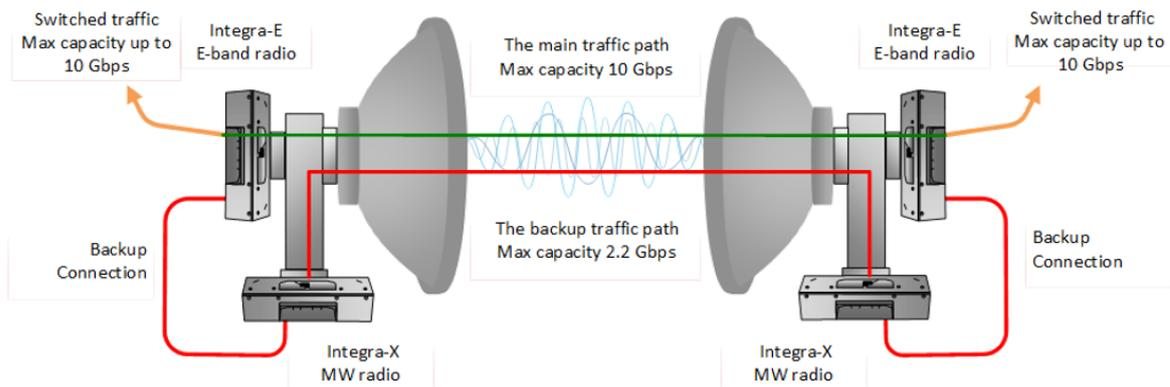

Figure 6-9 Dual-band solution in Protection (backup) mode
- Configuring Integra-E/E2/E3 as the main link and utilizing built-in LSP/Backup functionality provides MW backup redundancy. When the Integra-E/E2/E3 link capacity decreases below the pre-configured threshold, or sync loss occurs, LSP/Backup will switch traffic to the microwave radio (e.g., Integra-X) link. Maximum capacity will be limited to 10 Gbps in LSP/Backup mode and traffic will pass through one link at any time point. The external switch is not required in this configuration - Figure 6-9. For functional description refer to the Chapter Backup link.